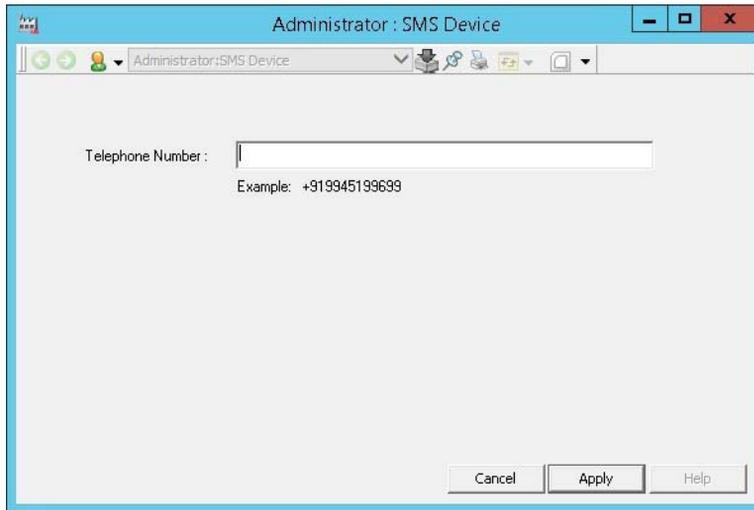

Figure 104. SMS/GSM Device
13. Enter this user's GSM telephone number to produce a view similar to the one shown in Figure 104. Enter the GSM telephone number without spaces and always include the Country Code.